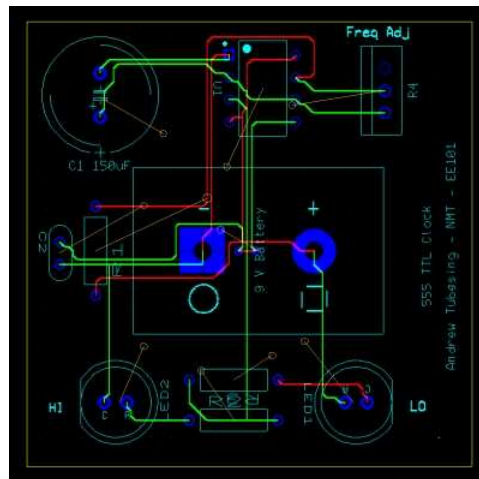

Figure 3:
- The screen will flash a few times and the yellow connection indicator lines will be replaced by red and green copper traces. Red lines represent the traces on one side of the board, and green lines indicate the traces on the other side. Yellow lines indicate places where the red and green traces cross over or run parallel to each other on opposite sides of the board. Every auto-route is unique so there is very little chance that your routes will look very much like the example in Figure 3.
There are three labeling steps. First we will add some labels to identify the board itself, such as the name of the device and the designer's name (you!). Then we'll add some labels to assist the user such as the frequency adjustment potentiometer and the LEDs. Finally, we will add labels for the builder so they will know what components to solder in each location. Use Figure 3 above as a guide for these steps.